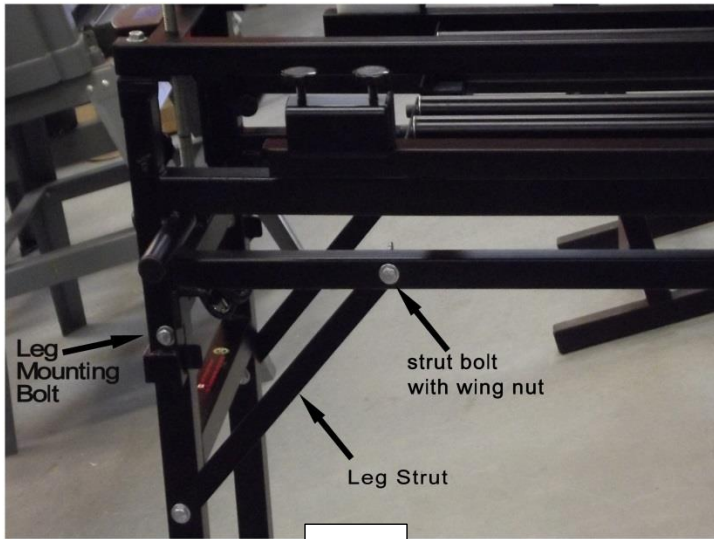

Fig 1
- 4) Remove the leg attachment bolts from the frame and position one of the leg assemblies so the mounting holes in the leg assembly line up with the mounting holes in the frame. (*see fig 1 below*)
- 5) Place a washer on the (2) leg assembly mounting bolts and feed the bolt through the frame mounting holes and through the Leg assembly mounting holes. Place a washer and the 3/8" lock nut on the mounting bolts and slowly tighten the lock nuts evenly on both sides. Be sure the leg assembly is